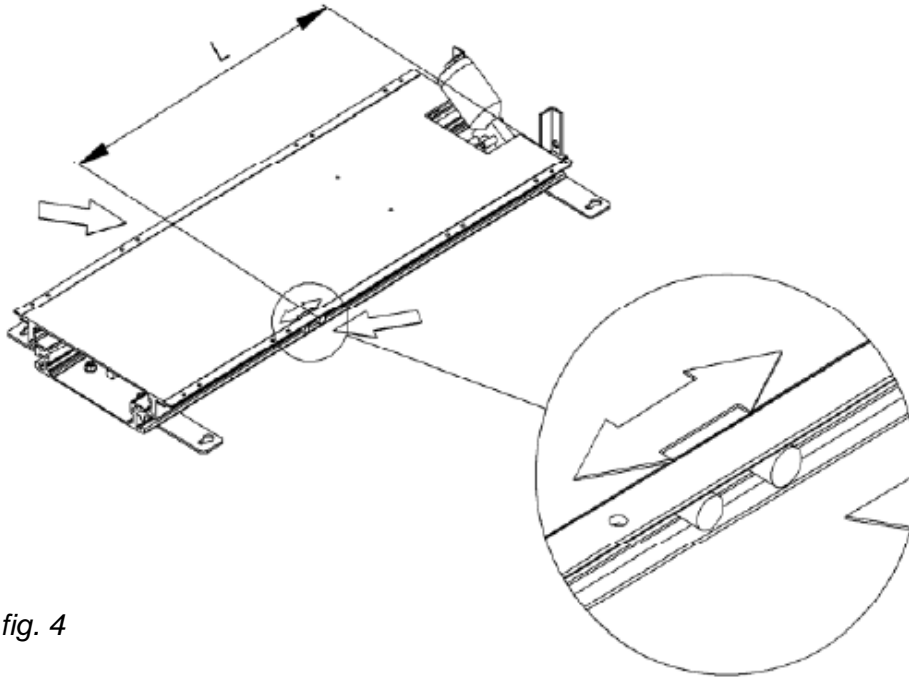
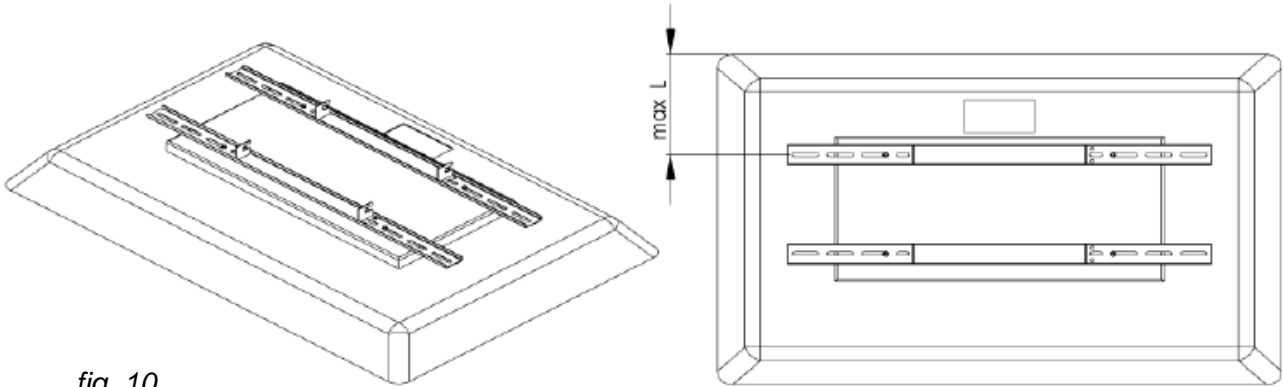

fig. 4
fig. 10
- Adjust the top screws so that the max. L value is not exceeded (fig. 4). The L value is the distance from the top mounting holes on the back of the TV to the top edge of the TV (page 21, fig. 10). Tighten the upper handles in the rails at the same height, leave the lower handles loosely for adjustment.
10. Using the screws, attach the horizontal beams to the back of the TV (fig. 10 – you can use the screws supplied with the TV or select the screws in accordance with the TV producer's recommendation). You can use the provided washers if needed.